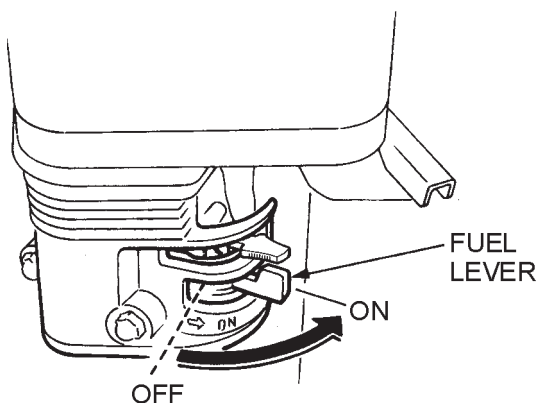

Figure 12. Engine Fuel Valve Lever
2. Place the **fuel valve lever** (Figure 12) to the "ON" position.